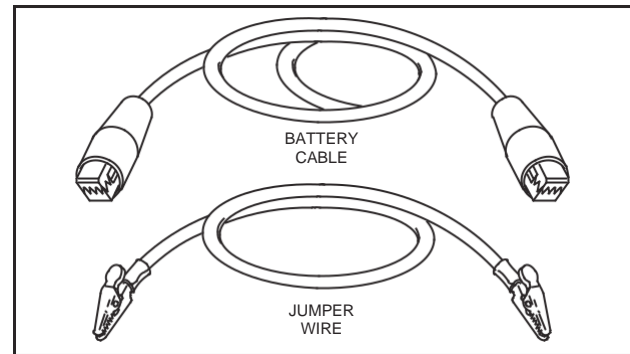

Fig. 50 – Test Equipment
1. One battery cable with alligator clips. Fig. 50.